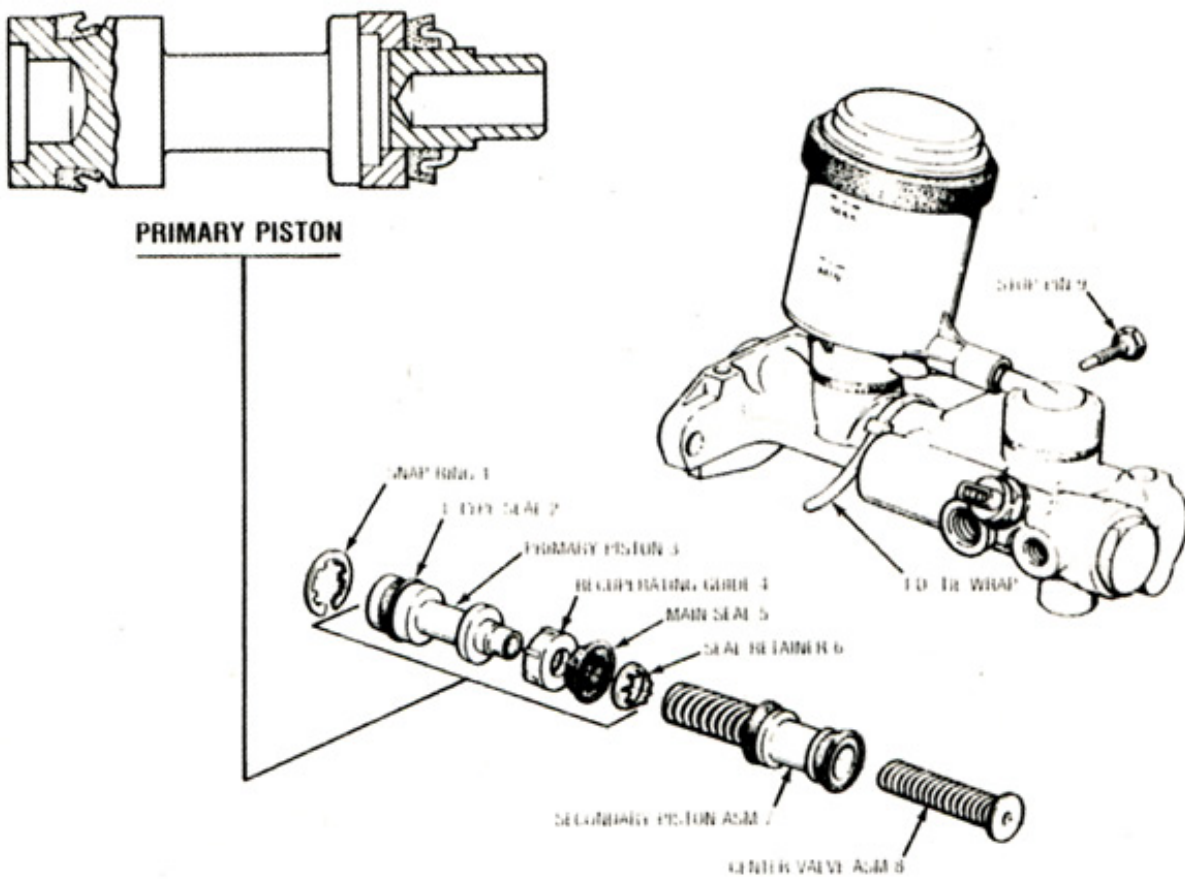

FIGURE 2
1. Lubricate new secondary seal (2) with clean brake fluid and install on primary piston with seal lip facing as shown (Fig. 2).
2. Insure recuperating guide (4) is located on primary piston as shown (Fig. 2).
3. Lubricate new main seal (5) with clean brake fluid and install on primary piston (3) with lip facing as shown (Fig. 2).
4. Press new seal retainer (6) onto primary piston (3). Make sure retainer tabs snap into piston groove.
6. Insert new center valve assembly (8) into secondary piston assembly (7), then install in cylinder bore.
7. Install primary piston assembly (3) in cylinder bore.
8. Using brass rod or wooden dowel (28), push the primary piston (3) down the cylinder bore until both primary and secondary pistons bottom in cylinder bore. Then install stop bolt (9) and torque to 9 - 12 N.M (7-9 lb.ft.).